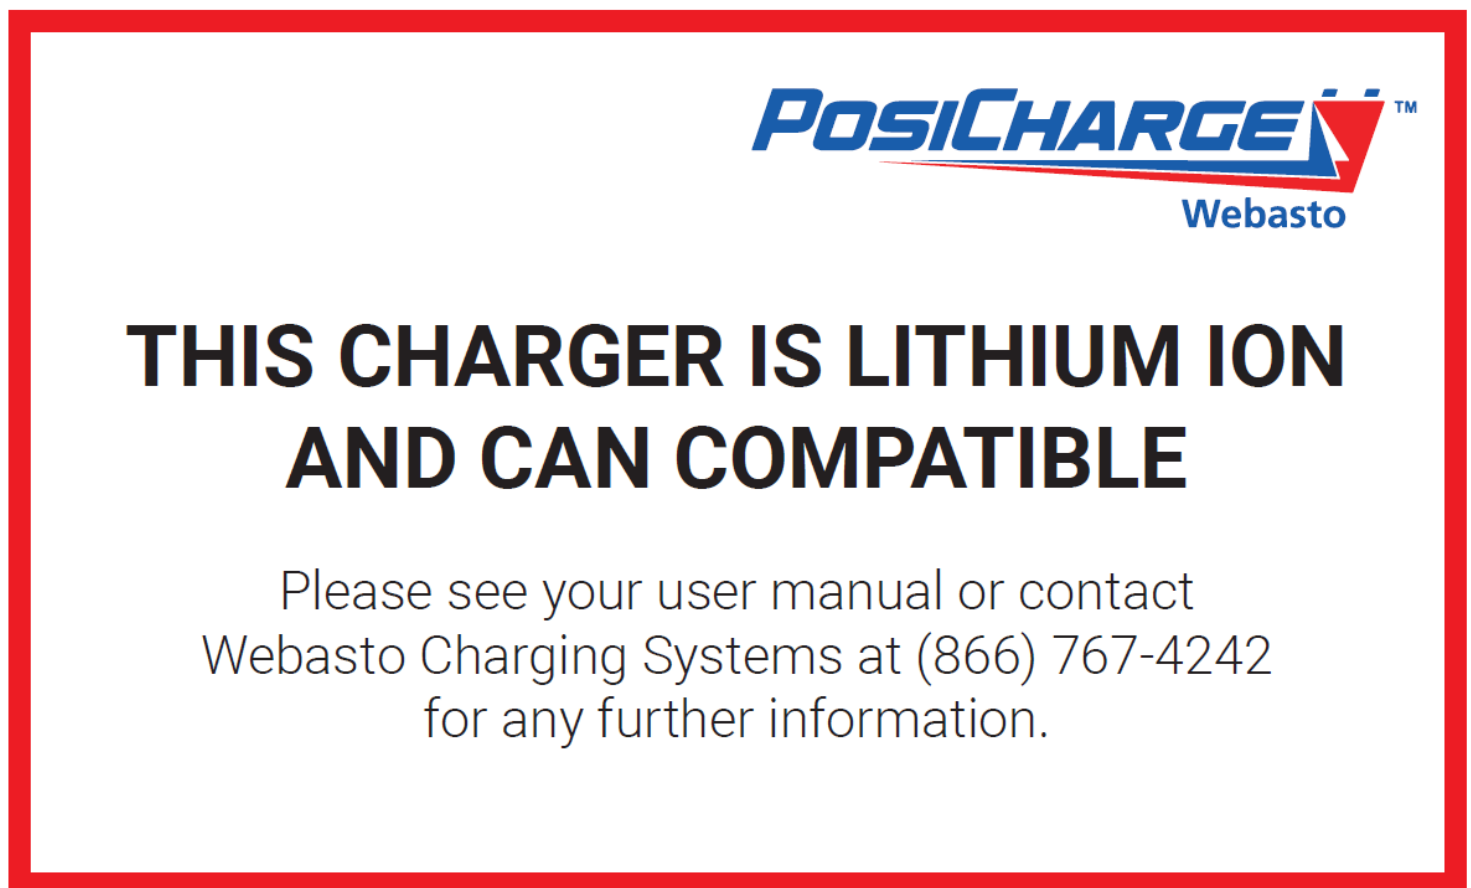
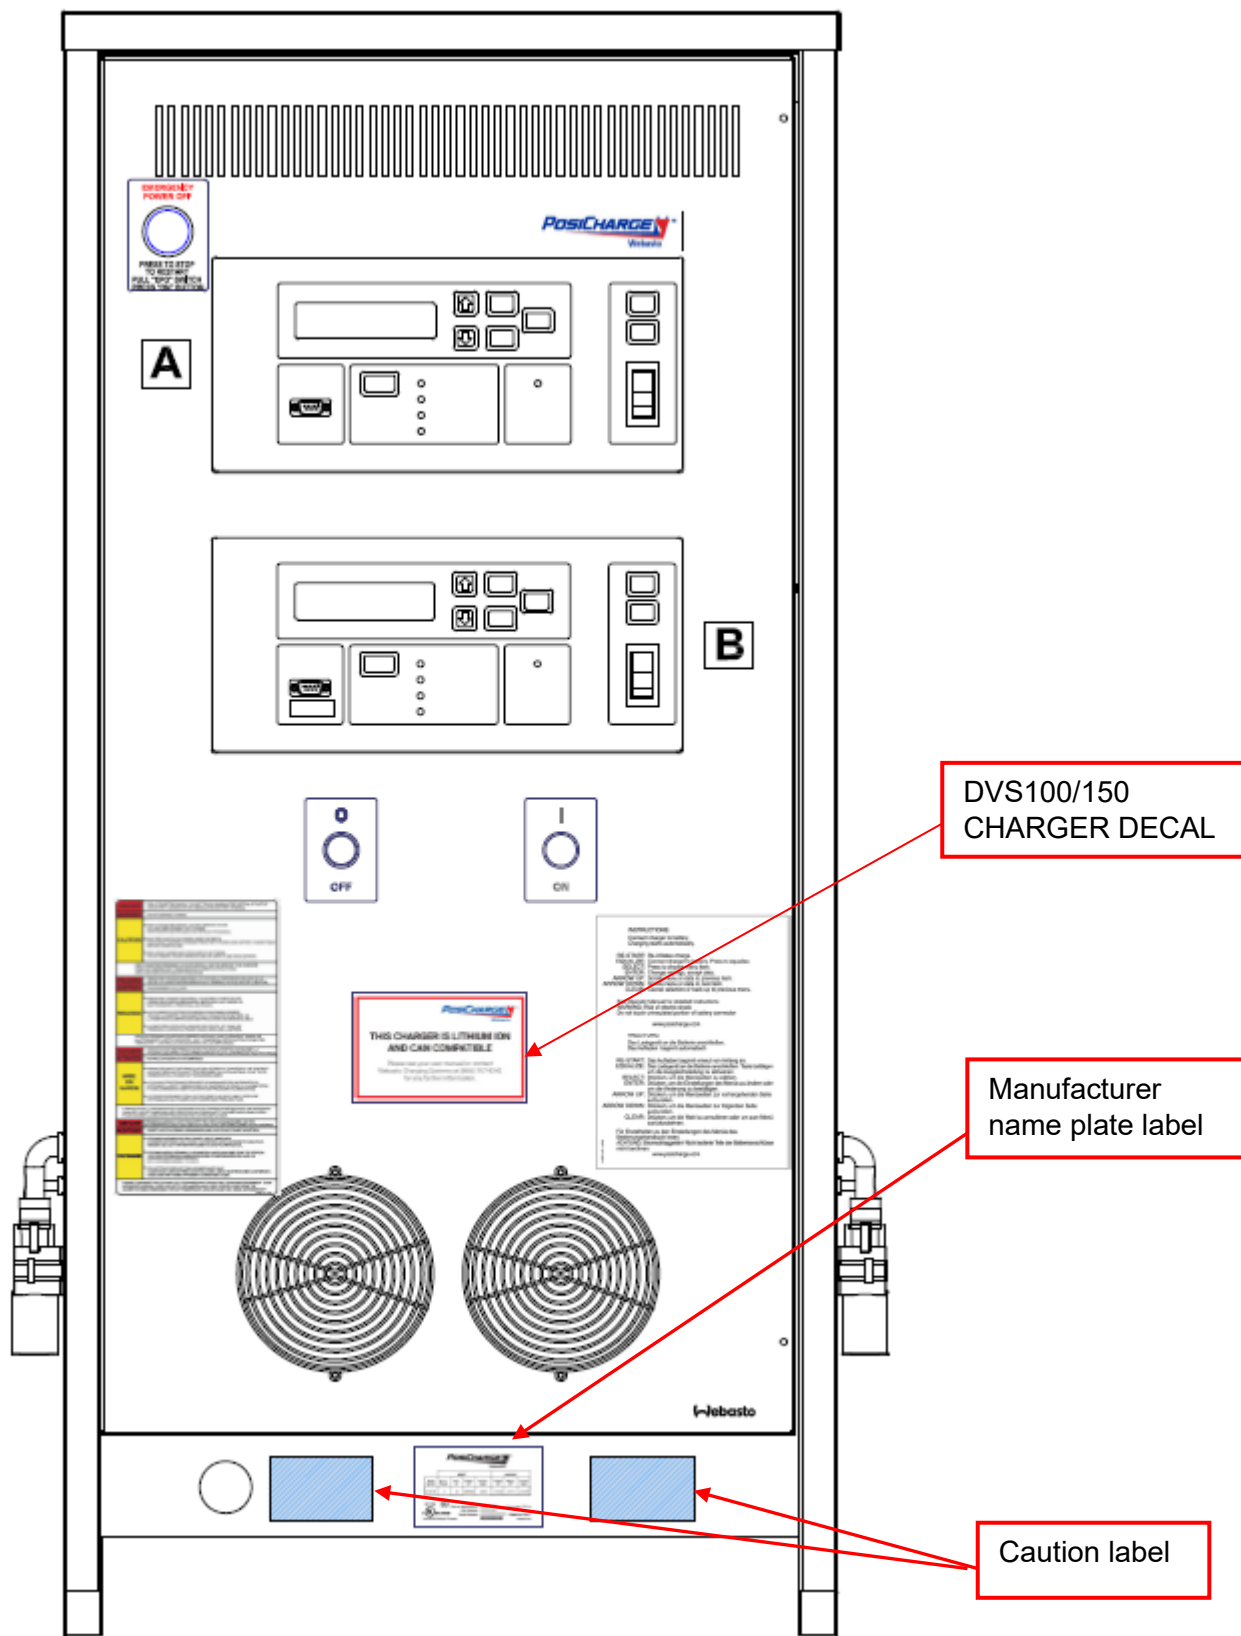
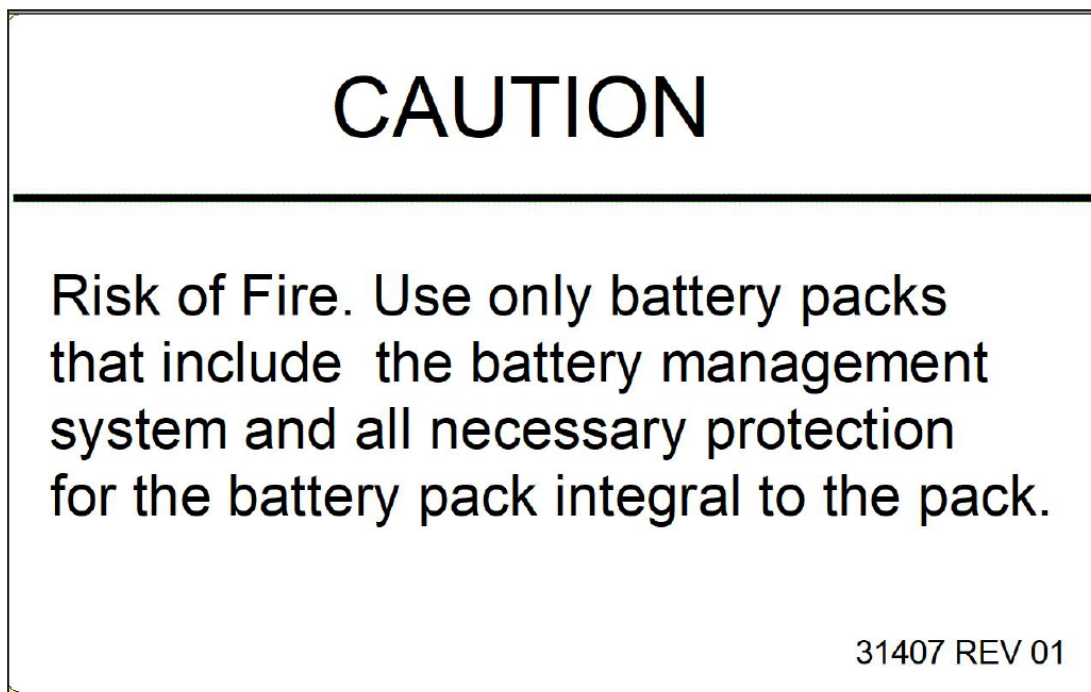

Figure 1 DVS100/DVS150 Charger Decal
Figure 2 DVS100/DVS150 Charger Decal, Manufacturer Nameplate, and Caution Label Placements
Figure 3 Caution Label
An DVS100/DVS150 charger decal (sticker) (Figure 1) indicating that the DVS100/DVS150 charger is CAN compatible is adhered to the front-panel door of the charger, on the lower-middle right side, under the instructions label (Figure 2).
- 3.6.1. Place the supplied caution label (31407) (Figure 3) on either side of the manufacturer nameplate. Ensure that the caution label does not impede the airflow. (Figure 2).